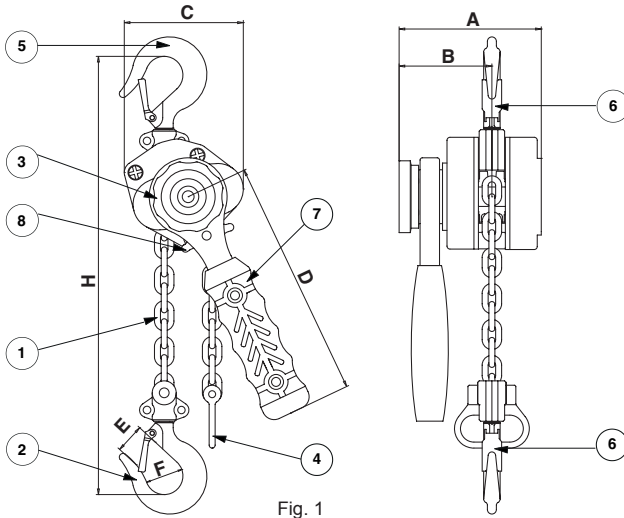

Fig. 1
The Bravo™ AC hoist is supplied with a standard 1.50 m length of load chain (item 1, fig. 1). The hoist chain is made of a single drop with a lifting hook at the end (ref. 2, fig. 1). The free end of the chain is equipped with a low limit stop (item 4, fig. 1).
1. Check that the Bravo™ AC hoist is properly suspended by its suspension hook (item 5, fig. 1) and that the hook safety catch (item 6, fig. 1) is properly closed (see figs 2 and 3).
The Bravo™ AC hoist is operated by means of an actuating handle (item 7, fig. 1) which is moved back and forth by the operator to lift or lower a load, pull a load, or apply tensioning.